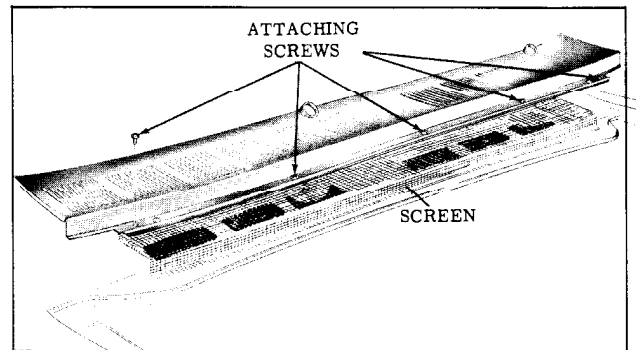

Fig. 11-24 Cowl Vent Grille
2. Raise hood and remove five cowl vent grille to cowl screws. (Fig. 11-24)